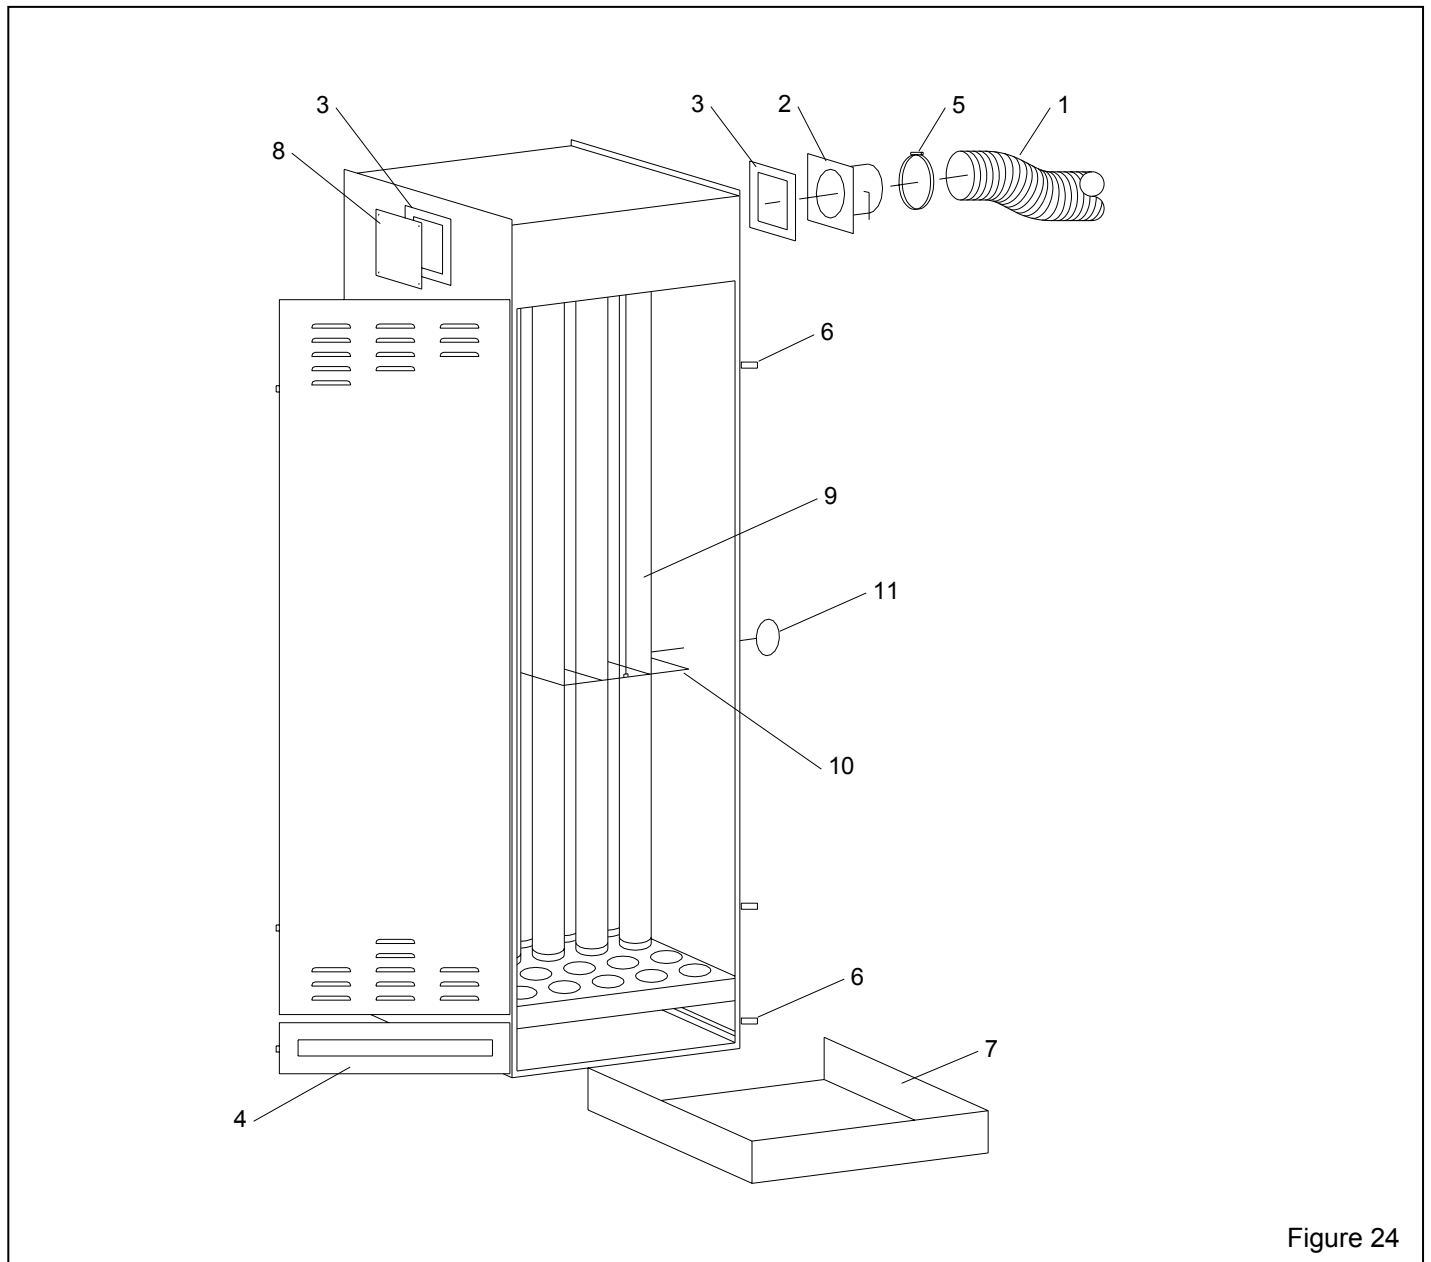

Figure 24
9.10 Dry Filter Dust Collector, Figure 24